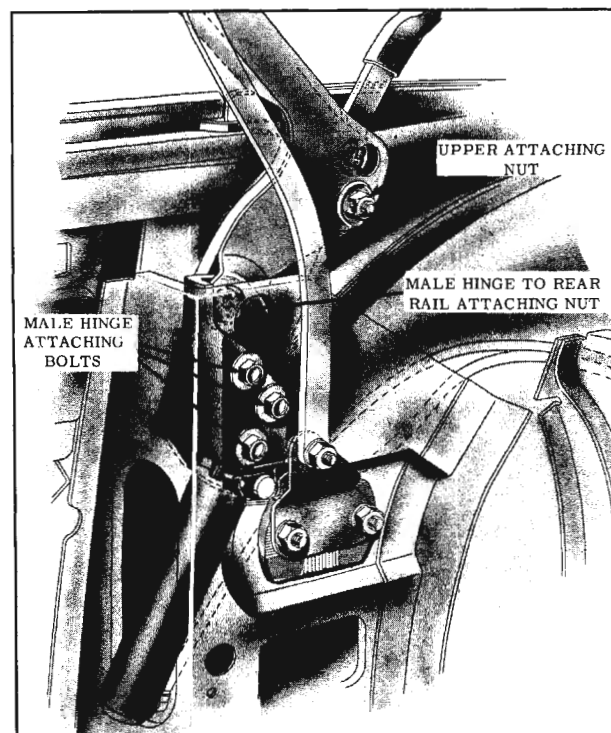

Fig. 16-150 Lift Cylinder Removal
6. Remove attaching nut, bolt, bushing and washer from upper end of lift cylinder. (Fig. 16-150)
7. Remove side roof rear rail to male hinge attaching nut and bolt. (Fig. 16-150)
8. Remove folding top male hinge to top compartment brace attaching bolts. (Fig. 16-150)